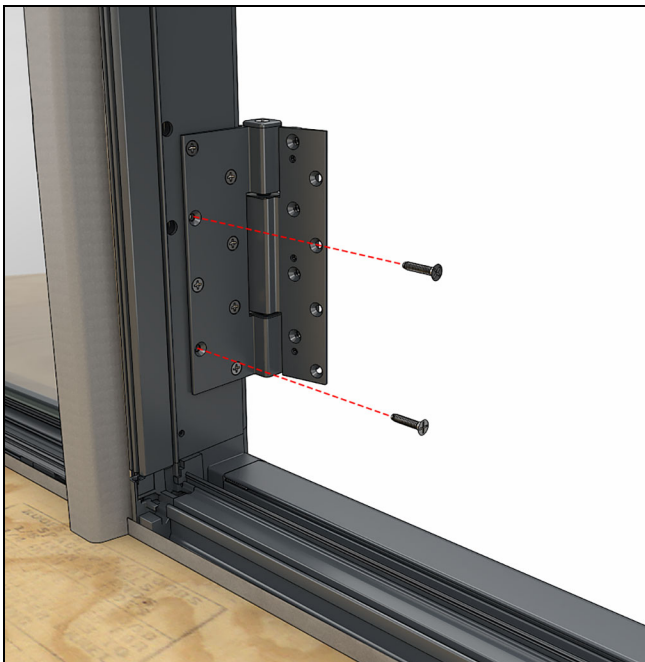
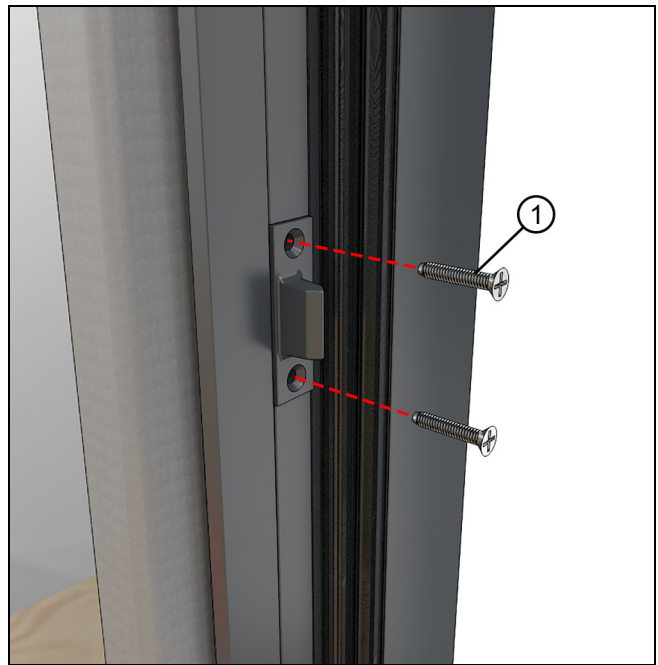
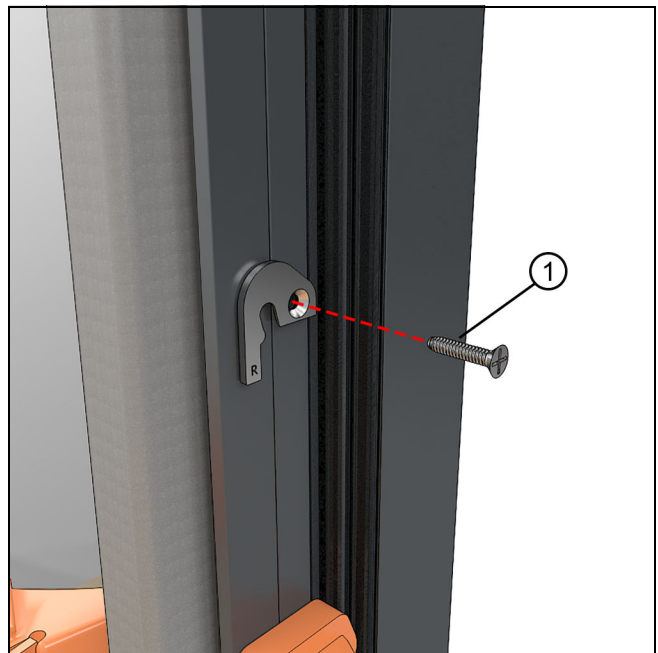

Figure 242 Hinges
Figure 243 Panel alignment bolts
Figure 244 Stationary brackets
22. Complete shimming and fastening around the entire perimeter using the installation holes and/or hardware holes. See Figure 242, Figure 243, Figure 244, and Figure 245.